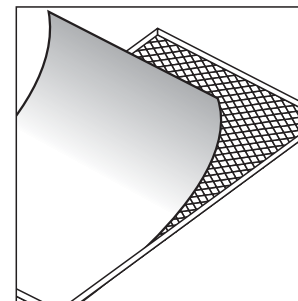

Figure 8—Peel away fabric grille scrim before painting grille.
4. Before spray painting the grille, carefully remove the grille's fabric scrim by peeling it away from the inside of the grille (figure 8). Place this on a clean, flat surface where it will not get wrinkled.